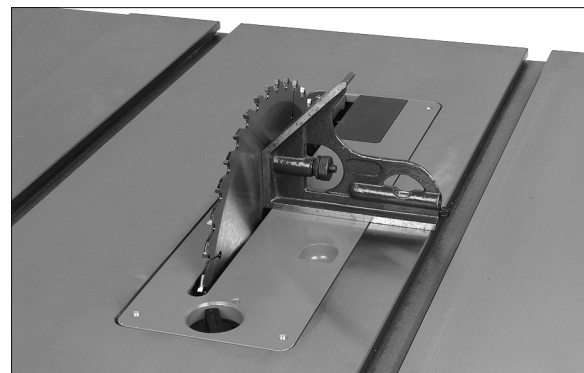

Figure 8-2
4. Place a square on the table and verify that blade is at 90° to table. See Figure 8-2. Make sure square is flat against blade surface and not touching a blade tooth.